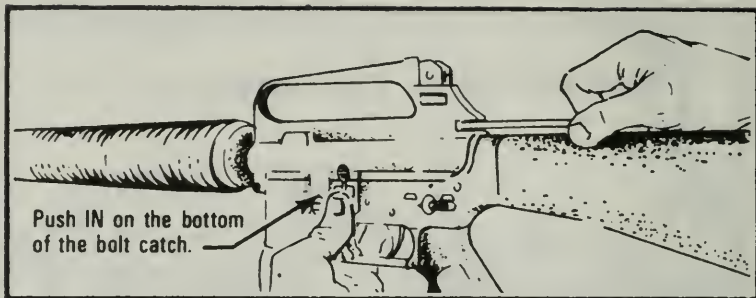

Figure 99. Bolt locked to the rear.
- f. Push in on the bottom portion of the bolt catch, thereby locking the bolt to the rear (Figure 99).